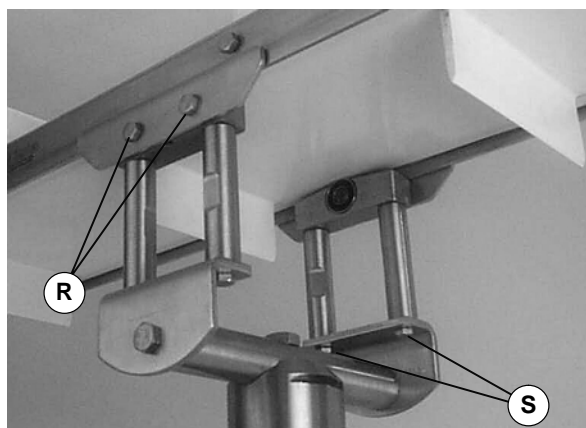

Figure 10
3. Attach clamp plates on each side of conveyor (Figure 10). Tighten the screws (R) to 92 in-lb (10.4 Nm).